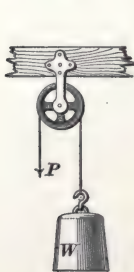

FIG. 28.
**71.** A **fixed pulley** is one whose block is not movable, as in Fig. 28. In this case, if the weight  $W$  be lifted by